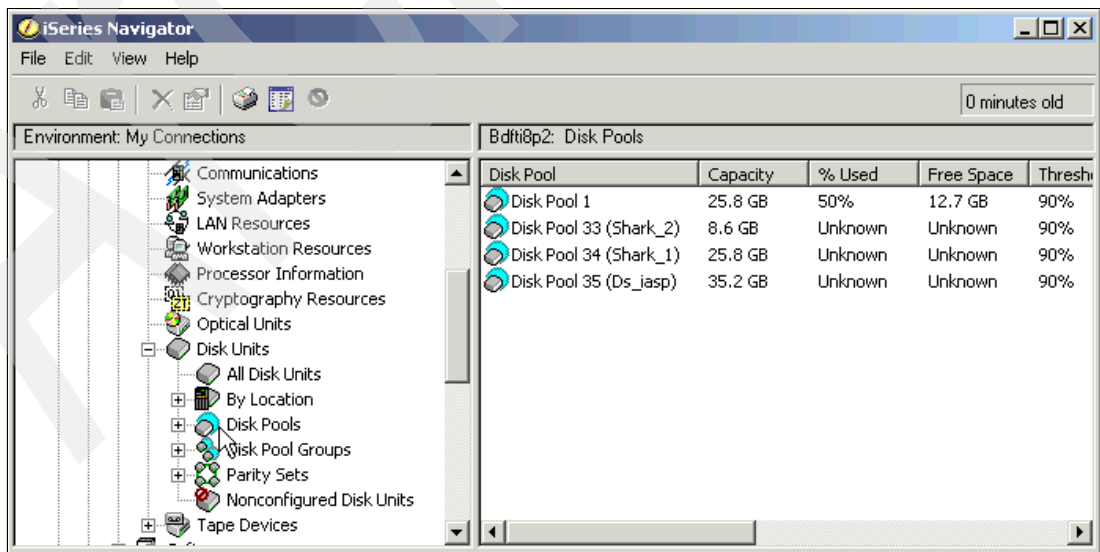

Figure 5-35 New disk pool shown in iSeries Navigator
14. In iSeries Navigator, you can see the new disk pool under Disk Pools (see Figure 5-35).